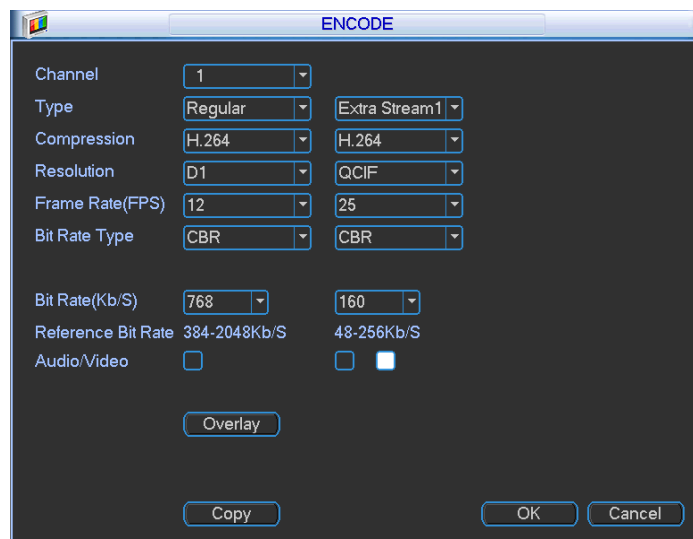
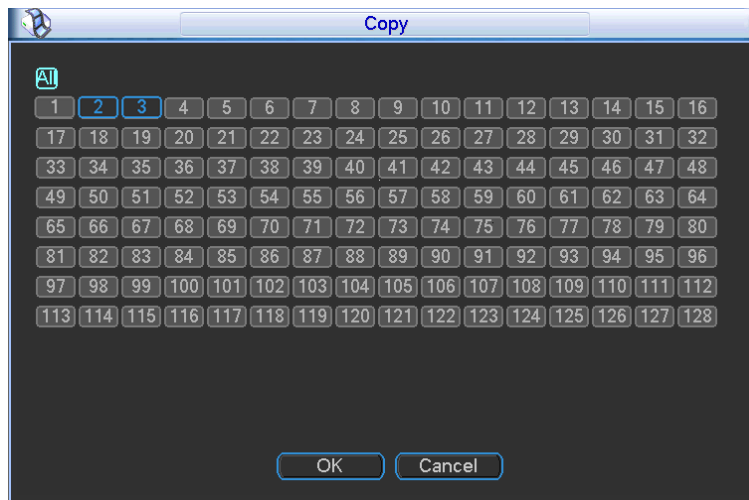
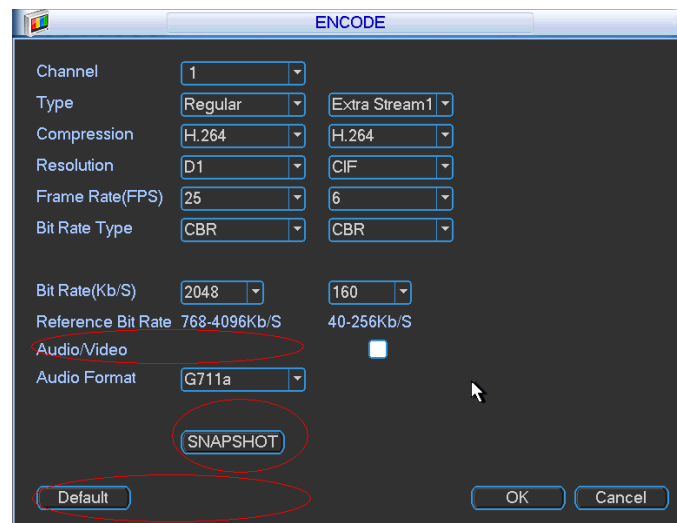

Figure 3-24
Figure 3-26
Figure 3-27
Encode setting includes the following items. See Figure 3-24.
- ✧ Copy: After you complete the setup, you can click Copy button to copy current setup to other channel(s). You can see an interface is shown as in Figure 3-26. You can see current channel number is grey. Please check the number to select the channel or you can check the box ALL. Please click the OK button in Figure 3-26 and Figure 3-24 respectively to complete the setup. Please note, once you check the All box, you set same encode setup for all channels. Audio/video enable box, overlay button and the copy button is shield. See Figure 3-27.